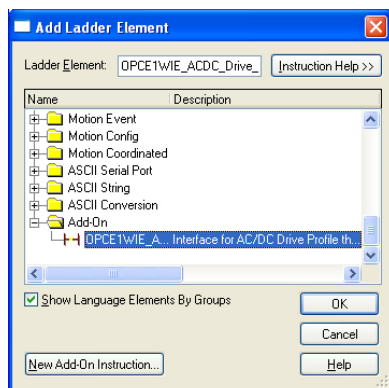

Figure 99: Add AC/DC Drive Profile Add-On Instruction
- 8) Select the AC/DC drive profile add-on instruction in the Add-On folder. Refer to Figure 99.